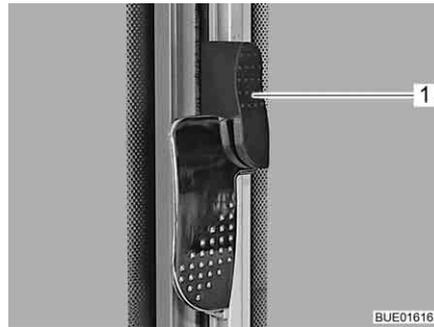

Fig. 116 Sliding window with swivel lock (locked)
- Push securing latch (Fig. 116,1) upwards.
- Push securing latch (Fig. 116,1) downwards.